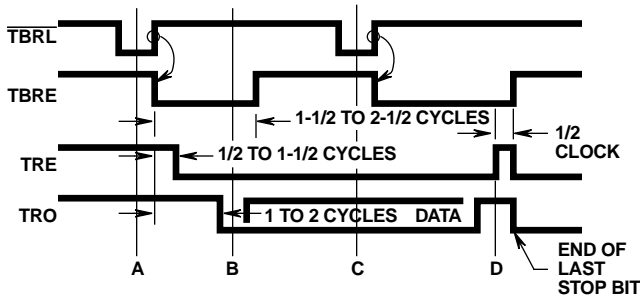

FIGURE 3. TRANSMITTER TIMING WAVEFORMS
Transmitter timing is shown in Figure 3. (A) Data is loaded into the transmitter buffer register from the inputs TBR1 through TBR8 by a logic low on the \overline{TBRL} input. Valid data must be present at least t_{DT} prior to, and t_{TD} following, the rising edge of \overline{TBRL} . If words less than 8-bits are used, only the least significant bits are used. The character is right justified into the least significant bit, TBR1. (B) The rising edge of \overline{TBRL} clears \overline{TBRE} . 1/2 to 11/2 cycles later, depending on when the \overline{TBRL} pulse occurs with respect to TRC, data is transferred to the transmitter register and \overline{TRE} is cleared. \overline{TBRE} is set to a logic High one cycle after that.